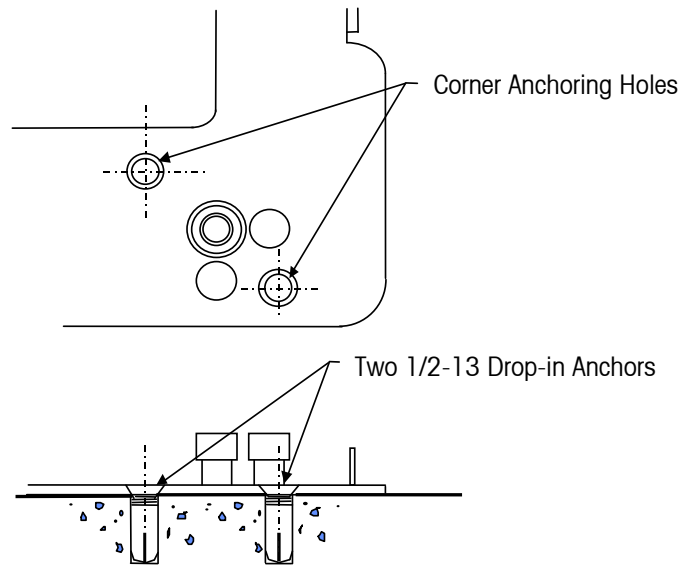

Figure 3-1: Frame Anchoring (Typical Each Corner)
3. Locate the anchor holes in all four corners of the frame. There are a total of eight anchor holes, two holes per corner (see Figure 3-1).